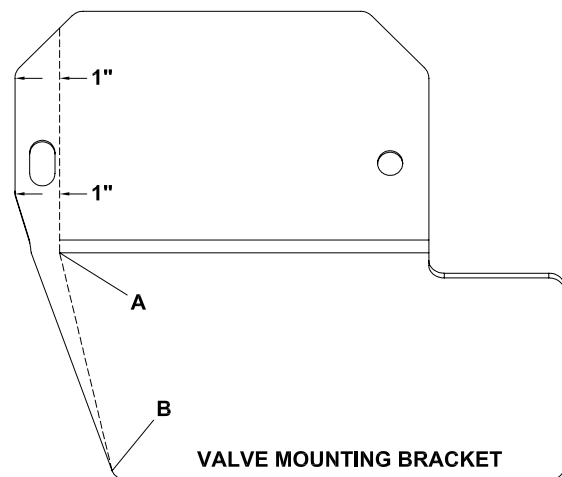

Figure 1
3. Measure 1" from the edge of the valve mounting bracket as shown in Figure 1.